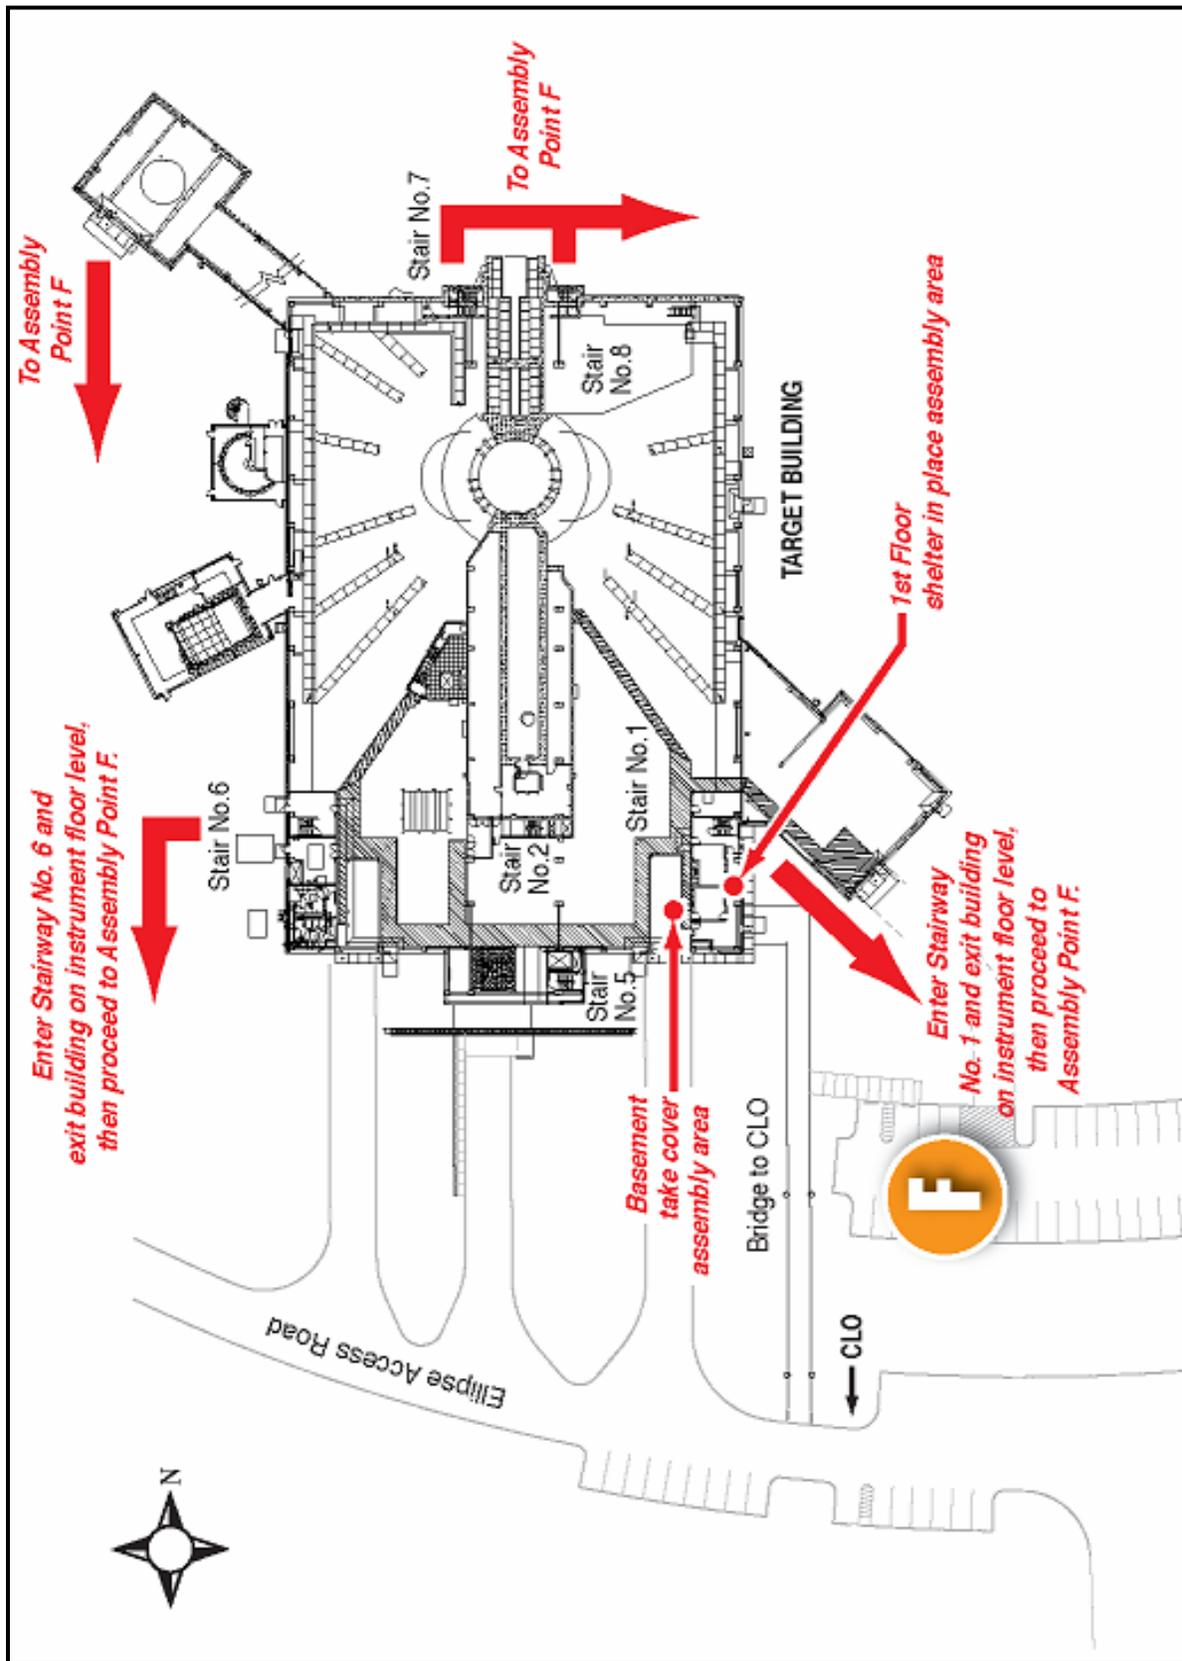

Figure 1. Evacuation and shelter map for the Backscattering Spectrometer
5.3	Follow access training Refer to the safety and experiment information display by the building door if uncertain. An emergency contact list, phone, fire alarm, fire extinguisher, and an evacuation/shelter map are posted (Figure 1).